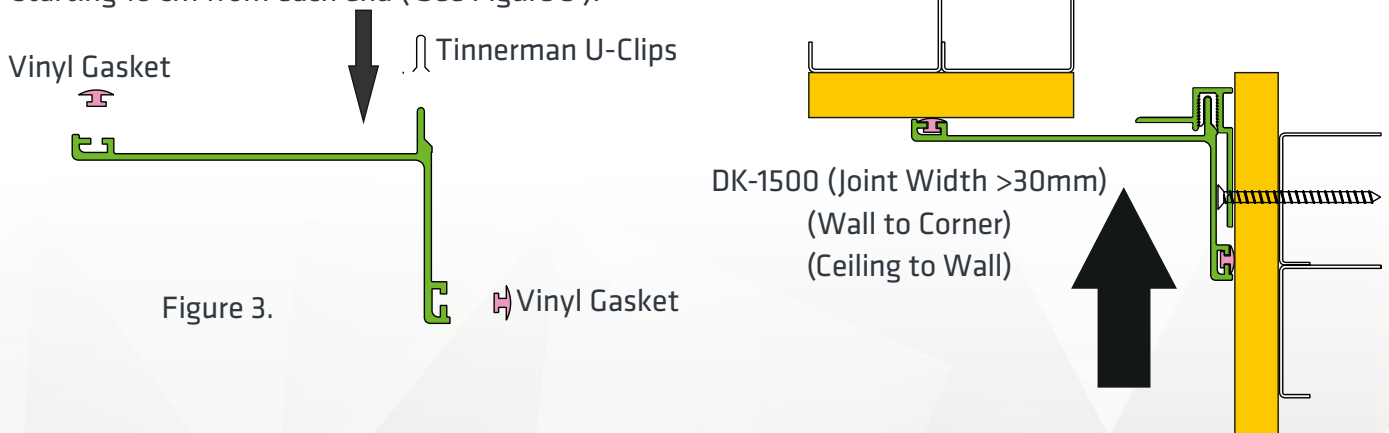

Figure 3.
STEP 3. Select a section of cover plate and Slide the flexible vinyl gaskets into the aluminum covers. Press the Tinnerman U-Clips onto the leg of the cover plate spaced approximately 50 cm on center starting 10 cm from each end (See Figure 3).